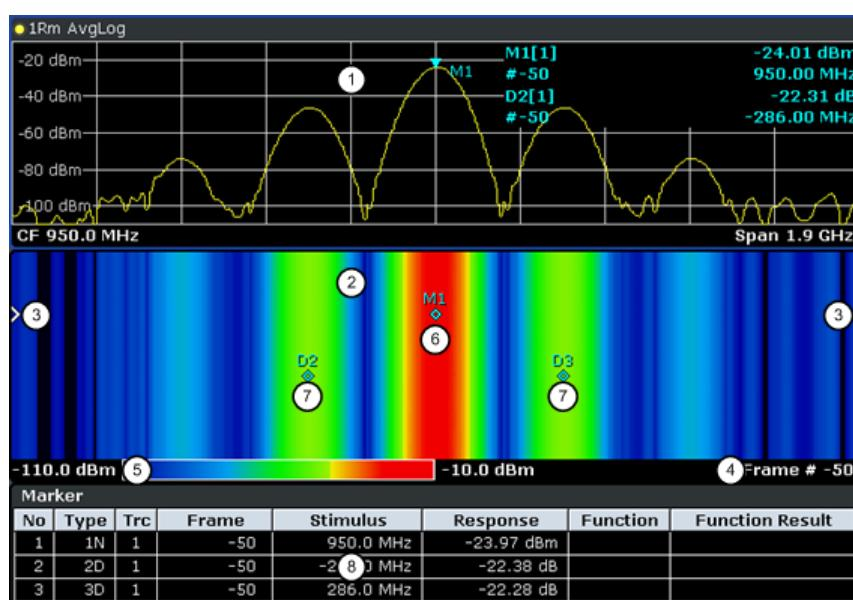

Figure 11-20: Screen layout of the spectrogram result display
- **Spectrum Analyzer result display (1 in Figure 11-20)**